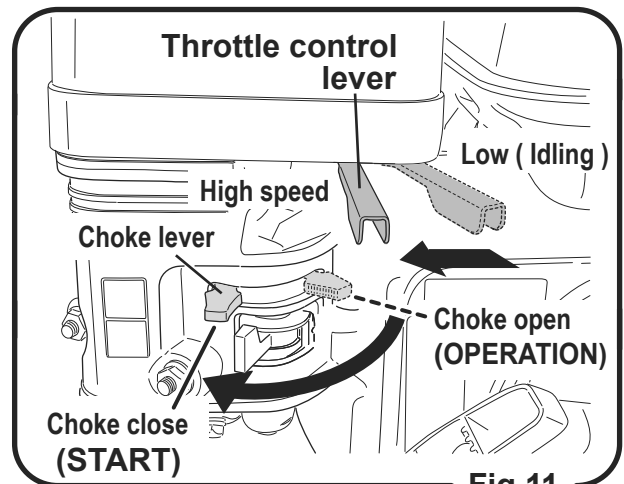

Fig.11
2. When cold or somehow starting is difficult, turn choke lever to START position. This is not necessary when engine is warm. (Fig.11)
3. Move throttle control lever slightly to high speed side. (Fig.11)
6. If engine has started, while listening to explosion sound, slowly return the choke lever to OPERATION position. (Fig. 11)
3. Open throttle lever slowly to set engine revolution to high speed. (Fig.11)